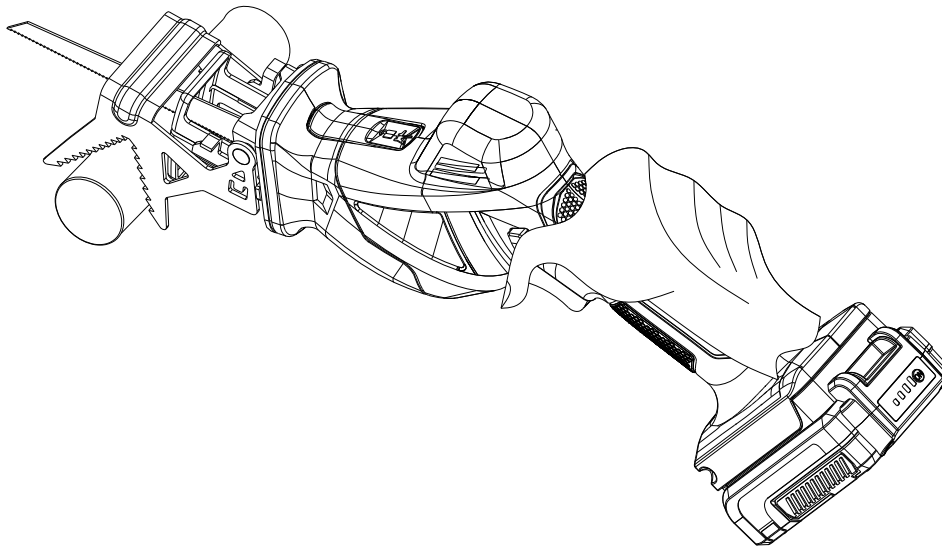

Fig.11
B) Using the clamping jaw (Fig. 11):